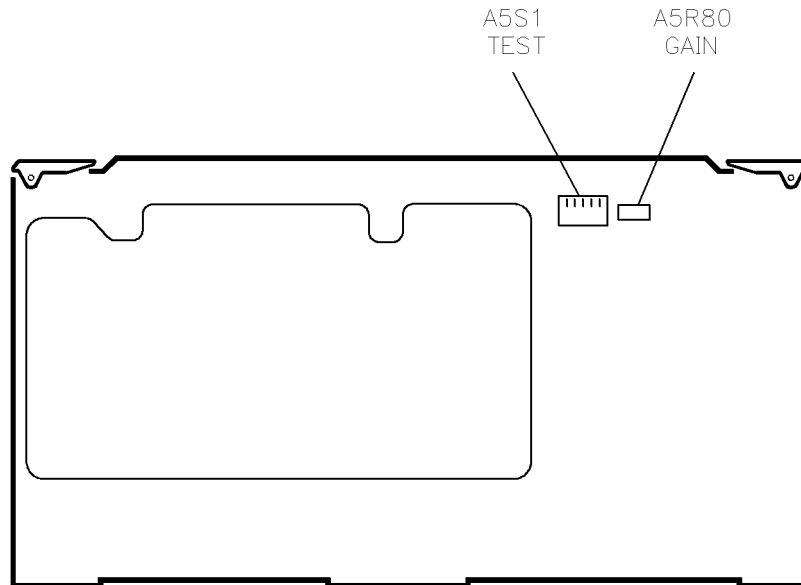

Figure 3-10. Switch and Adjustment Locations
4. On the A5 assembly, set all five switches on A5S1 to the closed position. (See Figure 3-10.)
5. Adjust A5R80 (see Figure 3-10) to center the “needle” on the display.